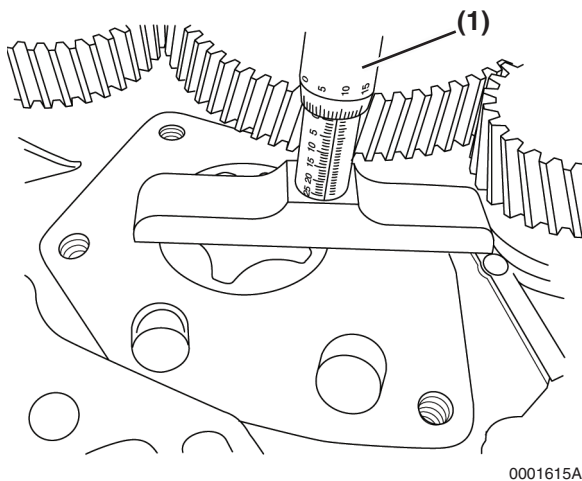

Figure 9-19
Determine the side clearance of the outer rotor across the pump cavity. Measure the depression using a depth micrometer (**Figure 9-19, (1)**).